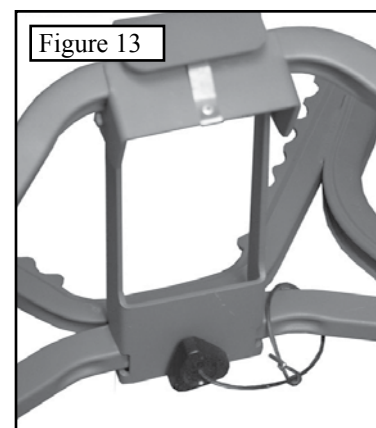

Figure 13
Step 1. Following **Section 1, Part 3** - Pivot the base down and secure with the large tethered knob as shown in **Figure 13**.